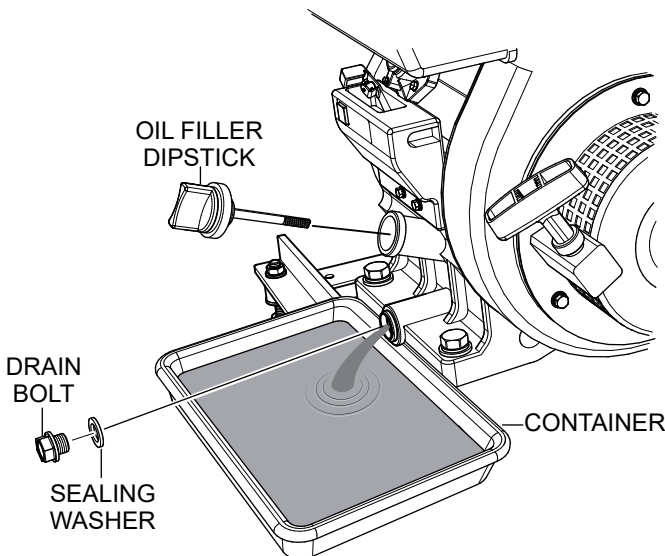

Figure 11. Engine Oil (Draining)
1. Drain the engine oil when the oil is **warm** as shown in Figure 11.